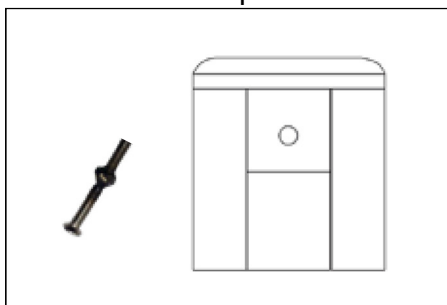

Figure 9
- A. Push post cap onto each post. See **Figure 9**.